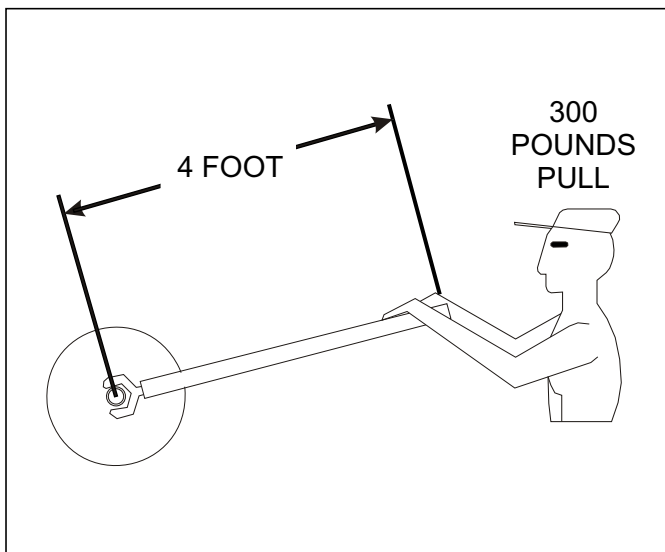

Figure 4-16: 1,250 Foot-Pounds of Torque
3. When reassembling the disc gang, remove any soil or mud from the disc blades and spools to ensure a clean surface when tightening the gang. Clean the gang threads and install the gang nut. Torque the disc gang shaft to a minimum of 1200 ft-lbs (See Figure 4-16.)